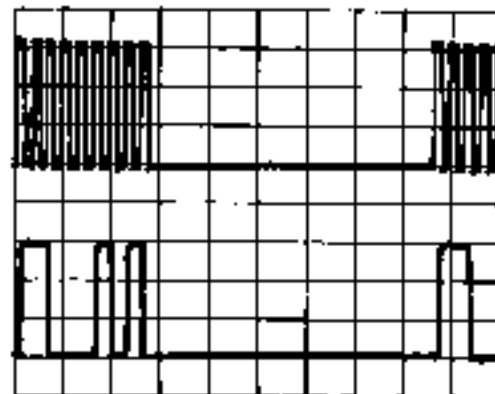

Figure 8-37. A2A10 HNR2 Test Point
23. Connect channel 2 to A2A10TP HNR2. The waveform should be as shown in Figure 8-37.